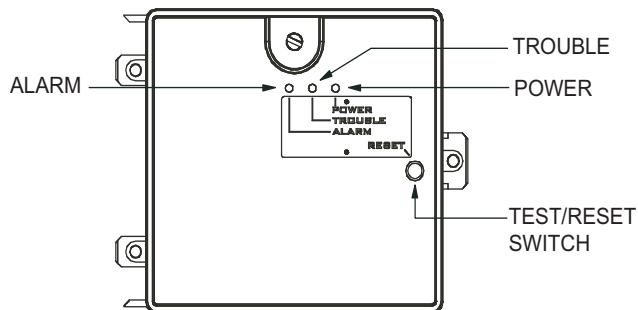

Fig. 1 — Controller Assembly
- Alarm, Trouble, Dirty, and Power status LEDs (see Fig. 1).
- The contacts on the controller's supervisory relay switch positions (see Fig. 1).
1. Locate smoke controller in kit (see Fig. 1).